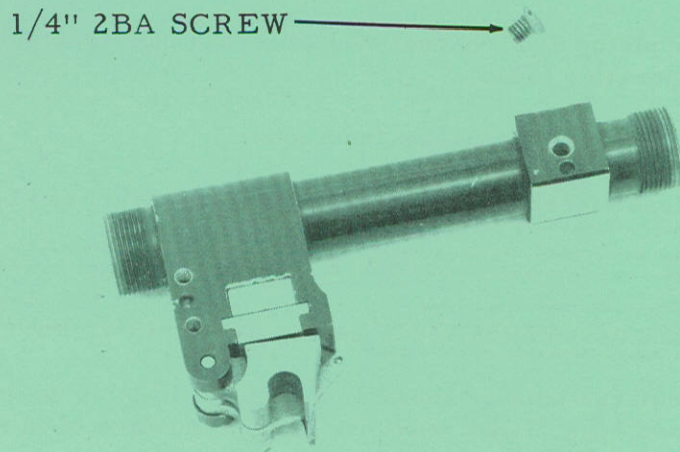

Figure 2
- (e) Re-assemble auto release mechanism using new barrel and breech block. One-quarter inch 2BA screw mentioned in paragraph (d) will be supplied with barrel and breech block assembly, see Figure 2. Screw heads to be sealed with glyptol or other suitable compound.